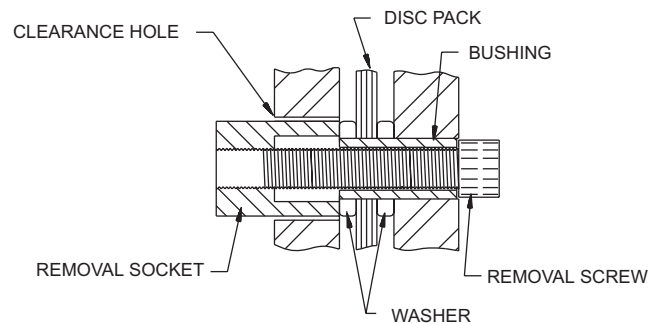

Figure 8. Disengaging bushings from flange.
- 6.3 Insert the disc pack removal socket into one of the disc pack clearance holes as shown in Figure 8 (counter bore first), install the removal capscrew and turn it until it cannot be tightened any more.